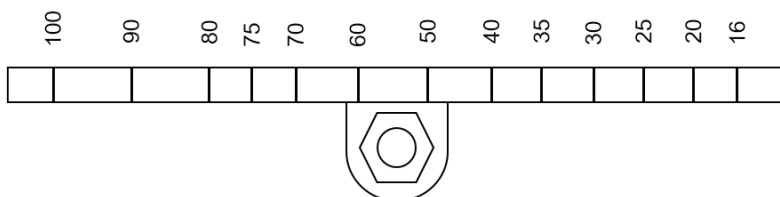

Fig. 29 AEL7 Stroke Arm 8 kN+ (1798 lbf+)
- Loosen the Stroke Slider lock nut (10mm A/F) and carefully move the slider to the required stroke as indicated on the arm (Fig. 29)